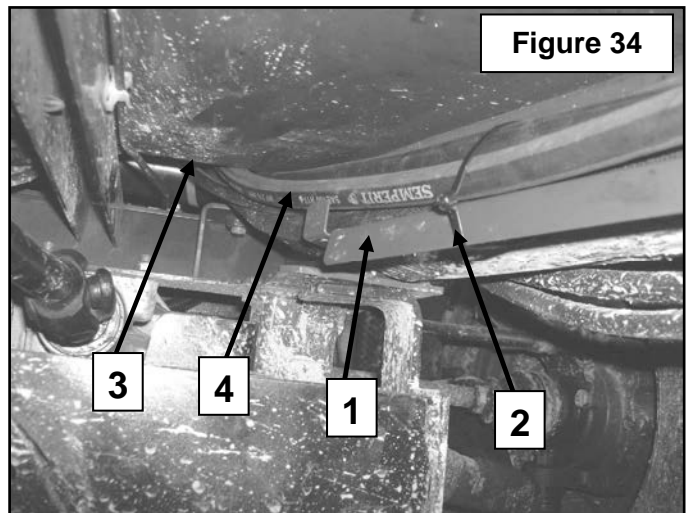

Figure 34
10. **Figure 34:** Place the hoses (item 4) in the hose support (item 1) under the vehicle and attach to the support 5.0mm x 15" tie wraps (item 2). Insert the hoses in the opening over the front differential (item 3).